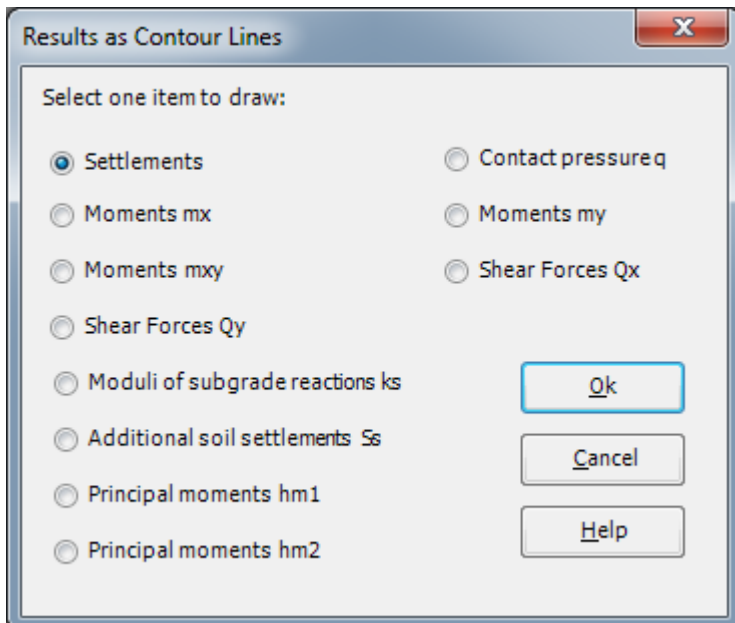

Figure 13.49 "Results as contour lines" option box
- Choose "Contour Lines" command from "Results" menu. The following option box in Figure 13.49 appears
The option box in Figure 13.49 appears